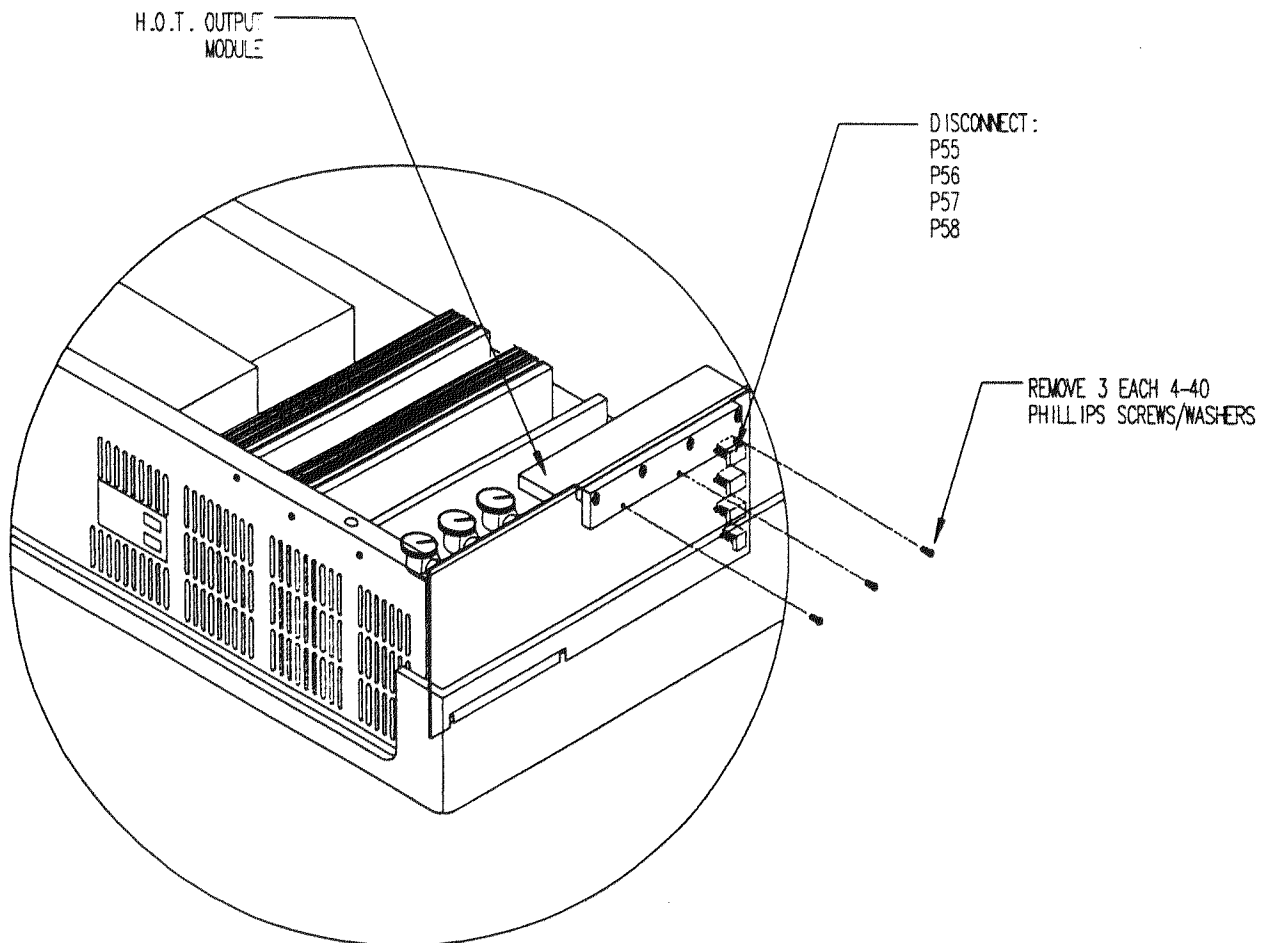

FIGURE 10-16. H.O.T. OUTPUT MODULE REPLACEMENT.
- STEP 3. The H.O.T. Output module is located to the extreme right of the main chassis as viewed from the rear, table mounted. See Figure 10-16.
- STEP 4. Disconnect the four following plugs for the H.O.T. Output Module; **P55**: Blue horizontal output, **P56**: Green horizontal output, **P57**: Red horizontal output and **P58**: Horizontal sweep reverse sense. See Figure 10-16
- STEP 5. Remove the 3 each 4-40 phillips screws and washers which fasten the H.O.T. Output module to the right side of the main chassis. See Figure 10-16